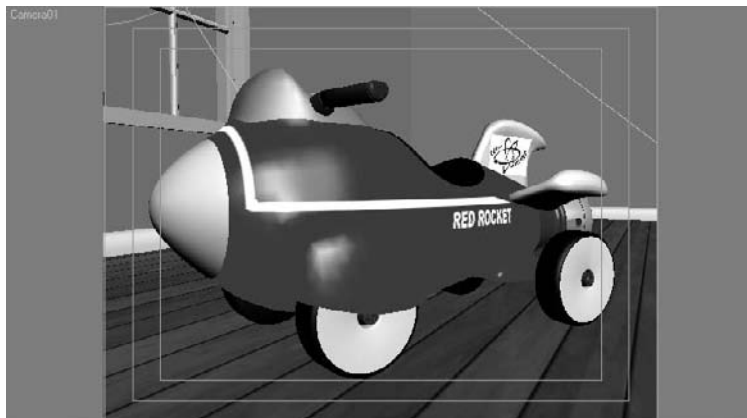

Figure 11.53
5. Select the Truck Camera tool (  ), which allows you to pan the camera. Click and drag up and to the left in the Camera viewport to center the rocket in the viewport to match the framing you see in Figure 11.53.